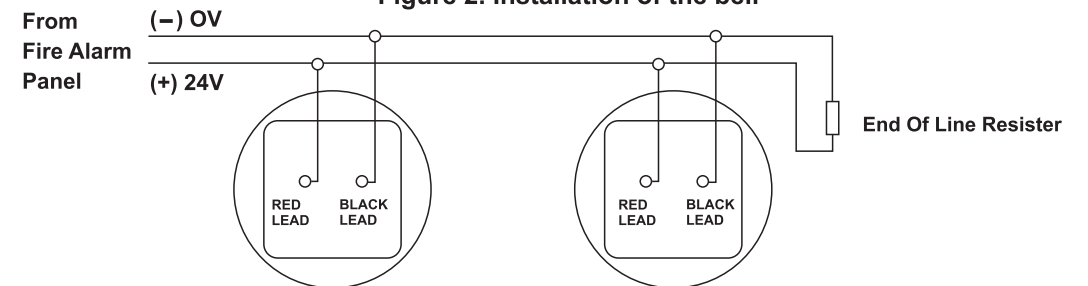

Figure 3. Wiring Diagram
- 3, Wire the leads of the bell base to cable from the fire alarm control panel, according to the wiring diagram in figure 3.